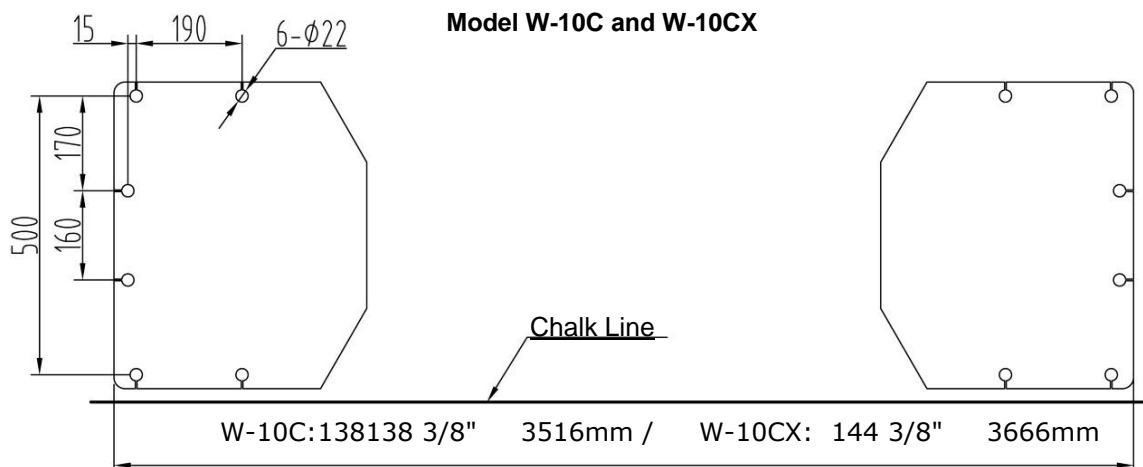

Fig. 7
B. Use a carpenter's chalk line to establish installation layout of baseplate (See Fig. 7).